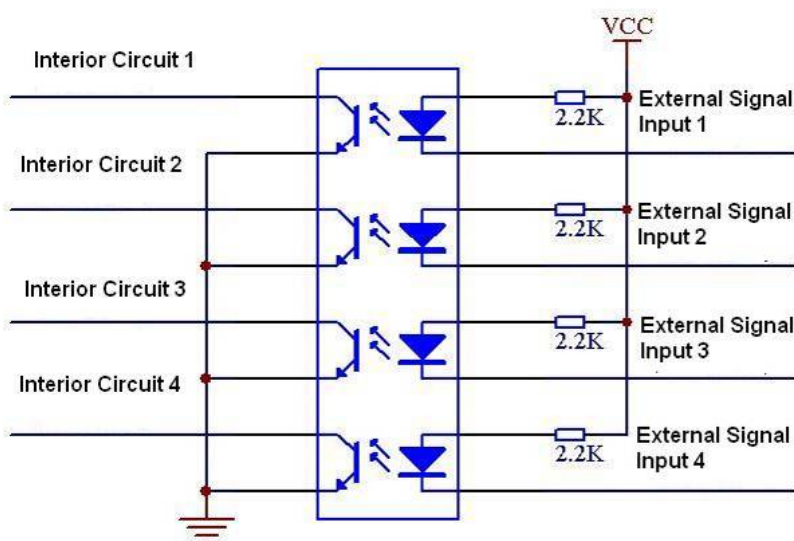

Figure 3-9
- Please refer to Figure 3-9 for alarm input module information.